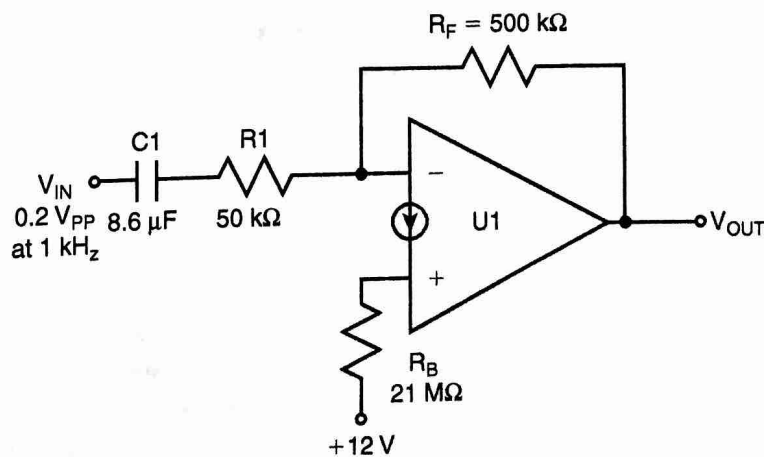

FIGURE 4-48 CDA circuit for Problems 12 and 13
12. For the CDA inverting amplifier in Figure 4-48, calculate the bias current and the AC gain.